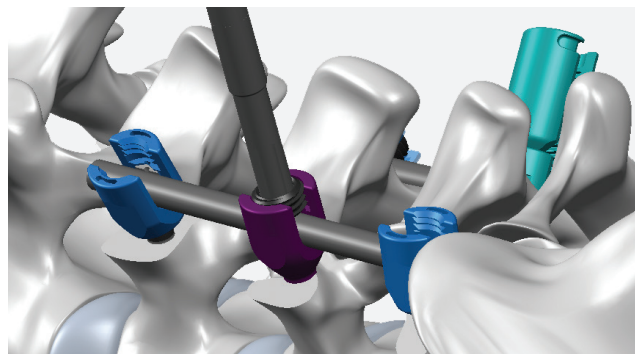

Figure 17
- After screw insertion, place the desired rod into the pedicle screw head (Figure 17). Retain a set screw from the caddy on the tip of the set screw inserter. With the rod seated in the screw head, introduce the set screw with the inserter and rotate clockwise to advance the set screw until the set screw rests on top of the rod. Pull straight back to disengage the set screw inserter from the set screw.